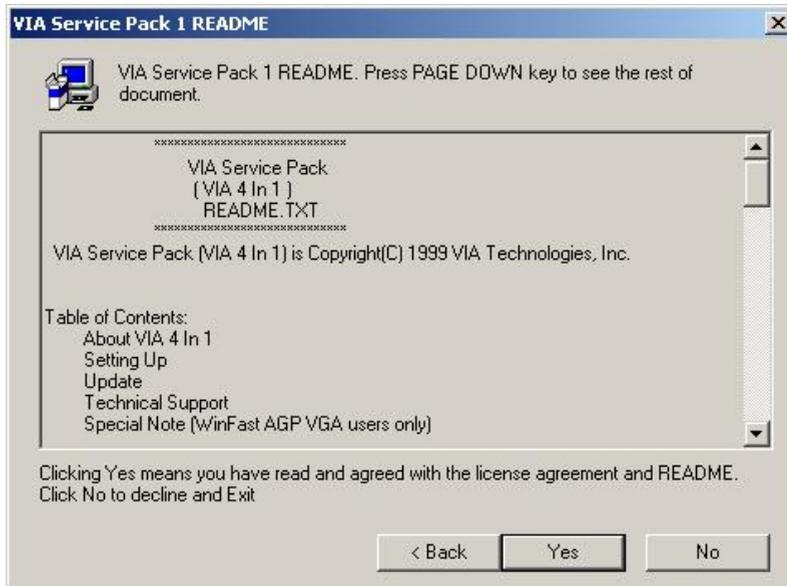

Figure 7-4: Readme Information
Step 5: The “**Readme**” in **Figure 7-4** appears. Click “**NEXT**” to continue.